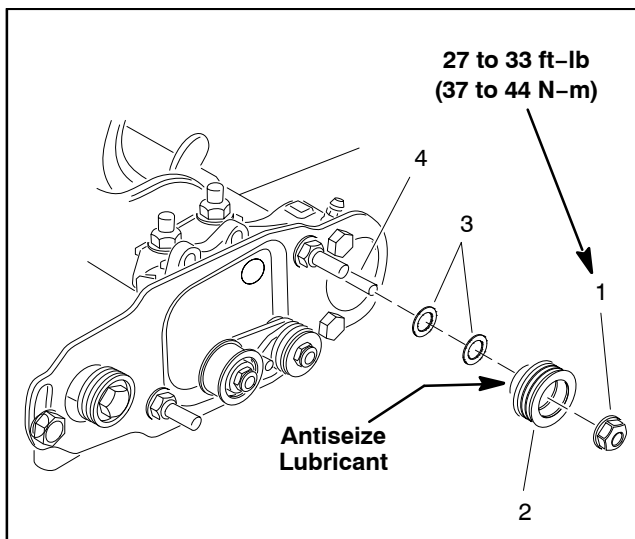

Figure 55
B. If necessary to align pulleys, remove driven pulley from brush shaft and add or remove flat washer(s) until drive and driven pulleys are correctly aligned (Fig. 55).